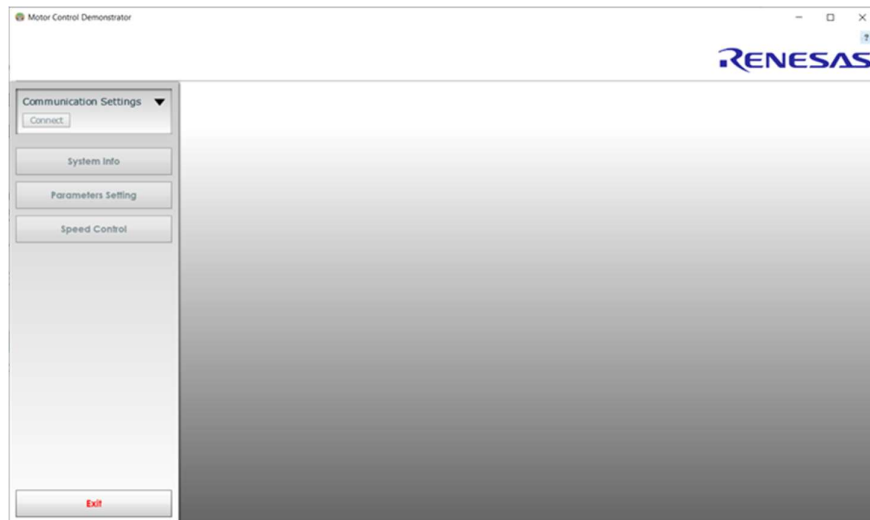

Figure 5. GUI Startup Screen
2. Select "Parameters Settings" (see Figure 5).
**Important note:** the value for “21. Encoder Offset” parameter is detected during the self-tuning of the kit. If the connection of the rotating board (with the 2 HEX (Allen) screws) is modified, the Encoder Offset needs to be readjusted by clicking the “Motor Identification” (see Figure 5). It checks the motor parameters and recalculates the IPS2200 position sensor offset (in full degrees).